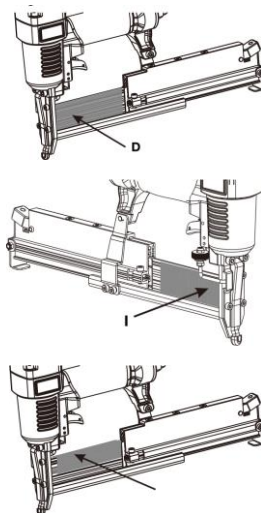

Figure 2
2. Push down on the latch button (B). Pull back on the magazine cover (C).
- a. For 18 gauge brad nails: Insert a stick of fasteners into the LEFT-SIDE of the magazine rail (D).
- b. For 16 gauge straight finish nails: Insert a stick of fasteners into the RIGHT-SIDE of the magazine rail (I).
- a. Load the stick of fasteners from the top of magazine (Figure 2).
6. Push the magazine cover (C) forward until latch button pops up.